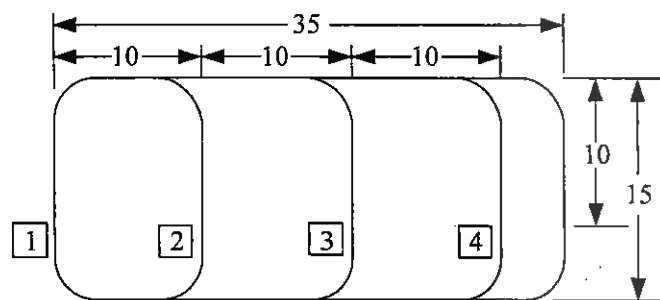

Figure Q4 (a): System Layout for Question 4(a)
- (a) A manufacturing system layout, as pictured in Figure Q4 (a), uses a rail guided vehicle system to move parts between stations in the layout. All work parts are loaded into the system at station 1, moved to one of three processing stations (2, 3, or 4), and then brought back to station 1 for unloading. Once loaded onto its Rail Guided Vehicle (RGV), each work part stays on board the vehicle throughout its time in the manufacturing system. Load and unload times at station 1 are each 1.0 min. Processing times at other stations are: 5.0 min at station 2, 7.0 min at station 3, and 9.0 min at station 4. Hourly production of parts through the system is: 7 parts through station 2, 6 parts through station 3, and 5 parts through station 4.